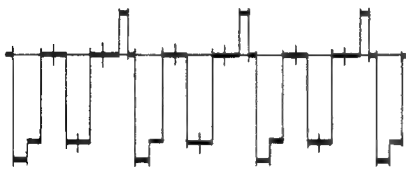

Fig. 6-2
3. Adjust RV21 of BG board so that the output waveform becomes flat. (Fig. 6-2)